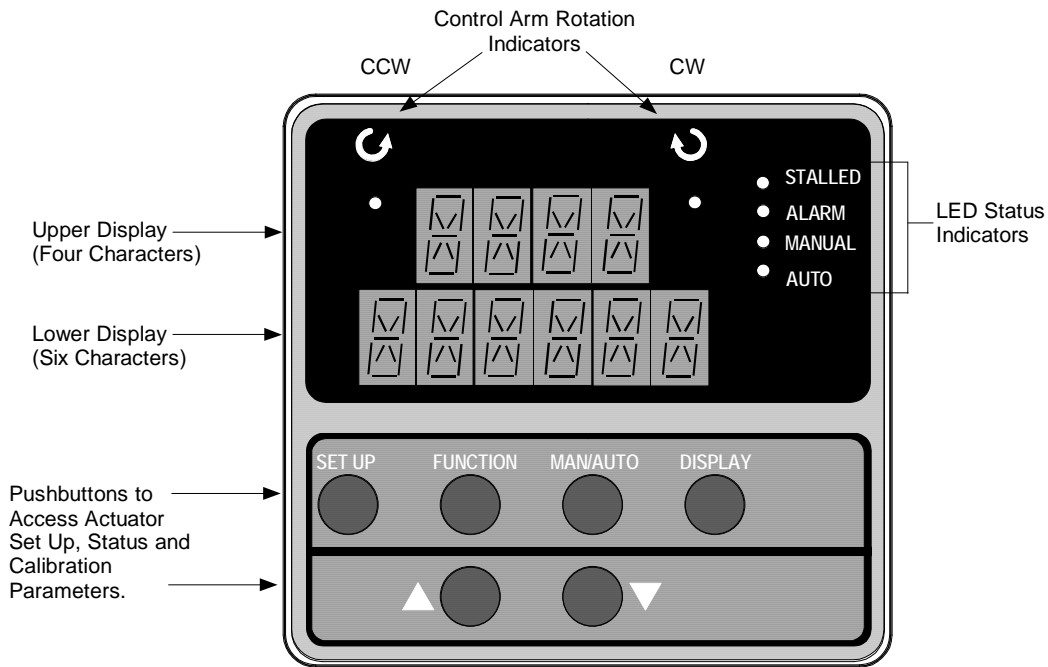

Figure 2 Local HMI (Display and Keypad)
- **Local HMI Configuration** – An integral keypad and high intensity display is available for non-intrusive local configuration of the actuator (Figure 2).
Configuration and set-up is through the local HMI, consisting of a display and keypad interface (Figure 2). A high intensity 10-character LED display and simple push buttons provide quick access for actuator set up and status information. If relay outputs are specified, all configurations can be done through either the local HMI interface or the PC configurator. If mechanical switches are specified, then the user must manually set the auxiliary output.